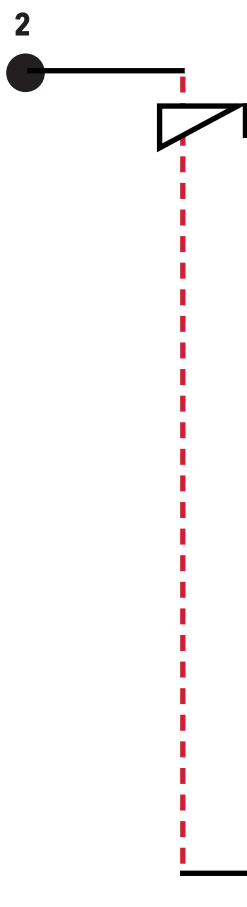

Figure 2 - One-turn spin.
**ONE-TURN SPIN:** (Figure 2) Four things must be kept in mind for spins. First, don't settle or climb on the entry line. I watch my altimeter as I am slowing down toward the beginning of the spin departure. Settling is most common.